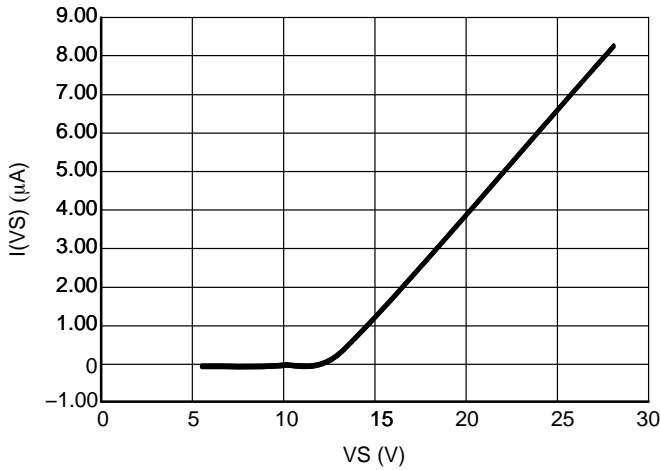

Figure 13. I(VS) Standby Current vs. VS at 25°C
5. Refer to Figures 13 and 18 for the VS standby current behavior.